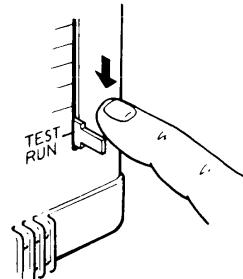

Fig. E-10H
- Set the thermostat lever to the lowest position. (The central position of the lever becomes the TEST RUN position.)Fig. E-10H.